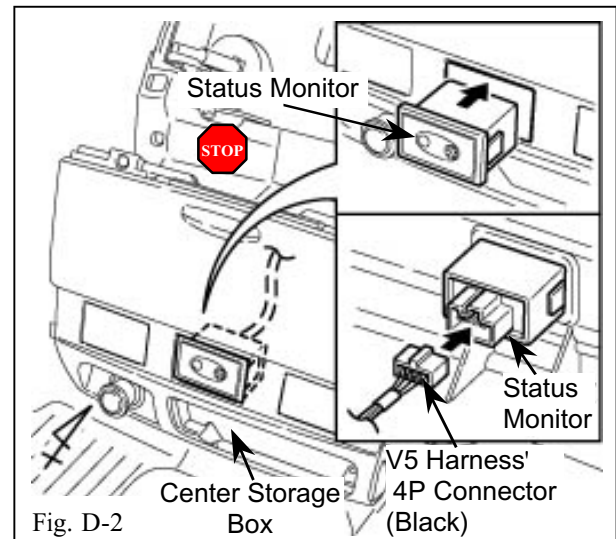

Fig. D-2
2. Insert the status monitor into the knockout opening of the center storage box with the Scion legend oriented correctly. (Fig. D-2)
3. Connect the V5 harness' black 4P connector to the status monitor. (Fig. D-2)
4. Reinstall the center storage box. (Fig. D-2)